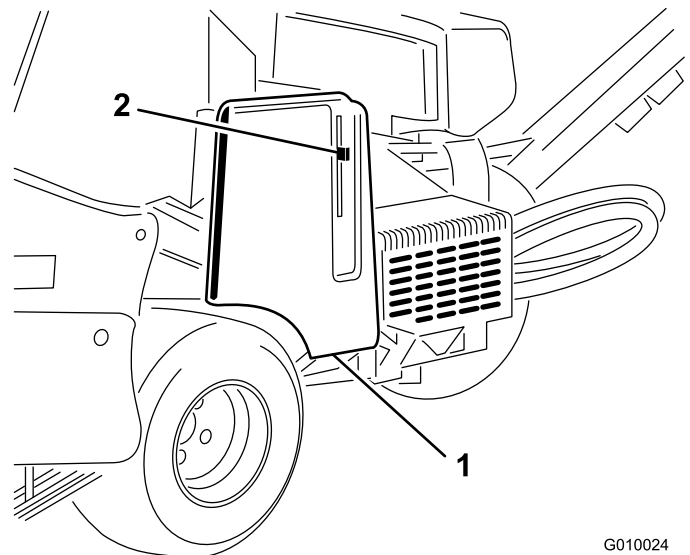

Figure 60
2. Unlatch and remove the belt cover (Figure 60).